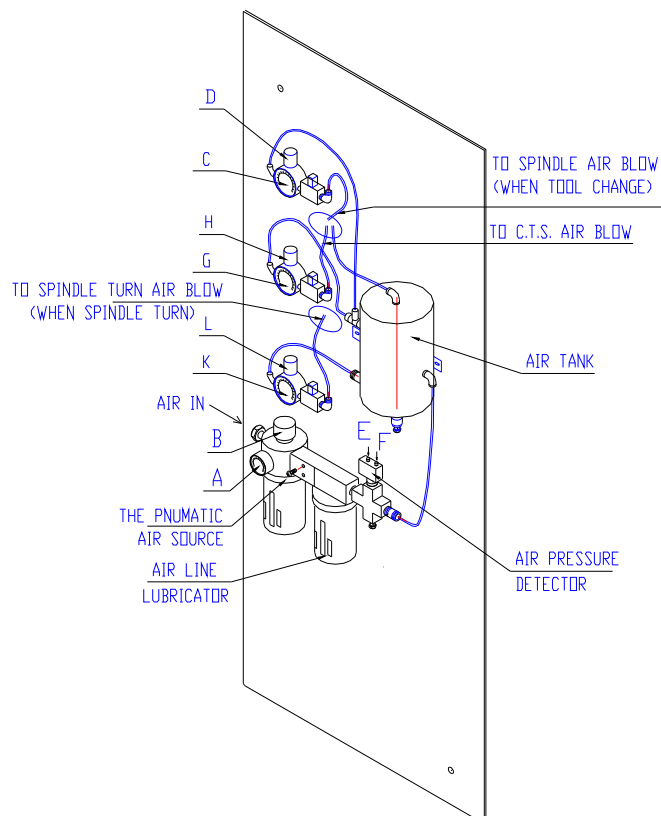

FIG. 6.6.1 AIR LINE LUBRICATOR
- c. TO ADJUST THE AIR PRESSURE (SEE FIG. 6.6.1) PULL THE STUD (B) ADJUST IT TO 6 bar . IF THE AIR PRESSURES STILL NOT ENOUGH, CHECK THE AIR SOURCE.
- f. FOR DETAIL OF THE AIR LINE, REFER TO THE AIR CIRCUIT DIAGRAM FIG 6.6.1.
- b. AS FIG 6.6.1 GAUGE (A) ADJUST THE AIR PRESSURE TO 6 bar ,
- b. AS FIG 6.6.1 GAUGE (C) ADJUST THE AIR PRESSURE TO 2 bar ,
- b. AS FIG 6.6.1 GAUGE (G) ADJUST THE AIR PRESSURE TO 2 bar ,
- b. AS FIG 6.6.1 GAUGE (K) ADJUST THE AIR PRESSURE TO 2 bar ,